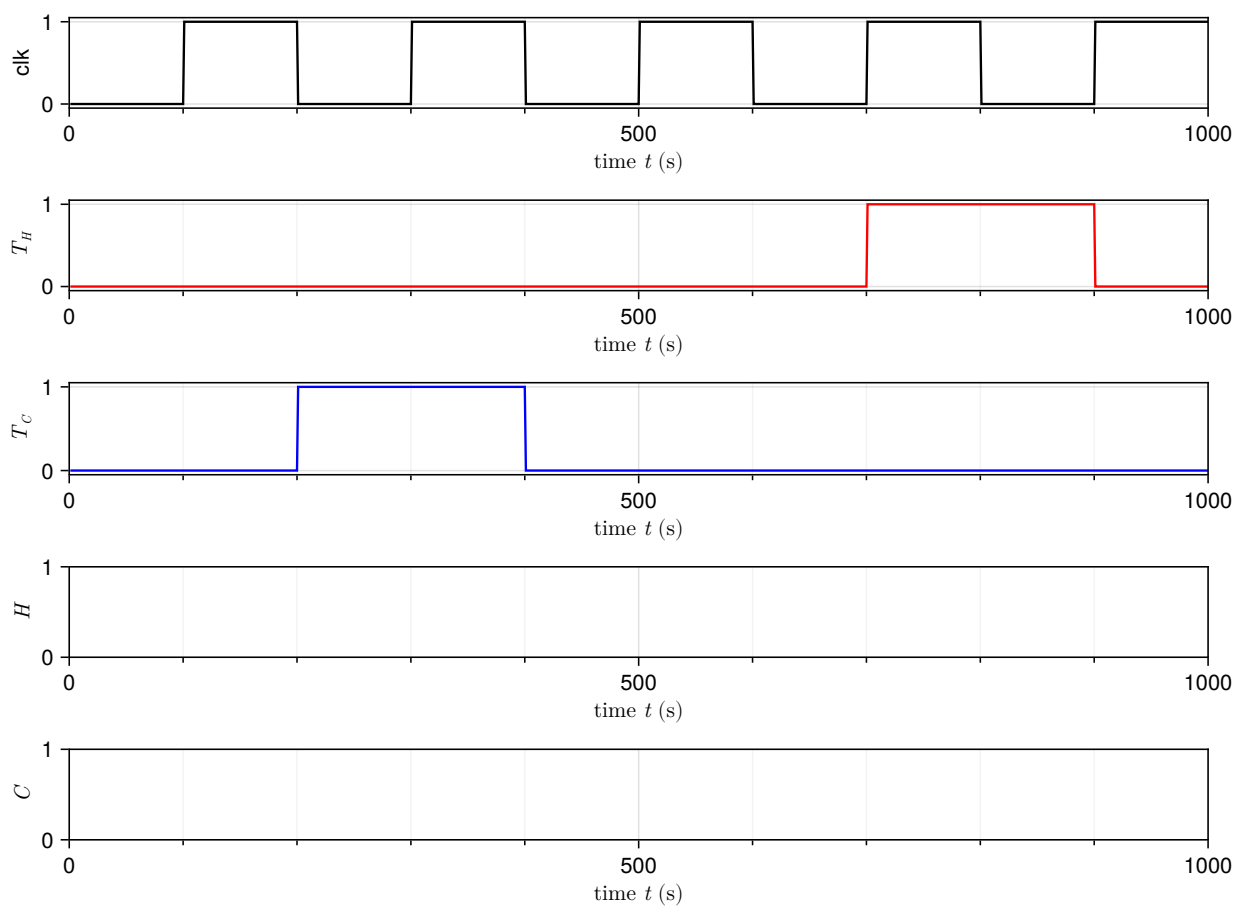

Figure 1: Timing diagram for the smart thermostat
2. Suppose the clk signal,  $T_C$ , and  $T_H$  signals evolve over time as shown in Fig. 1. Sketch the heating and cooling signals  $H$  and  $C$  for your smart thermostat system. **You can assume a rising edge trigger.**